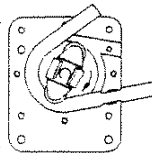

FIG. 4
8. Continue to rotate the roller bracket assembly using the extra bracket, while pushing the tubing into the roller race. (Figure 4)
9. Insert tubing into outlet port (figure 4) and replace cover.